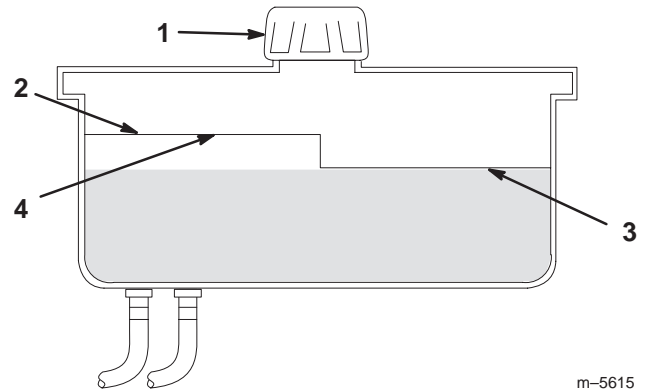

Figure 51
2. Clean area around filler neck of hydraulic tank (Fig. 51).
3. Remove the cap from the filler neck. Look inside to check if there is fluid in the reservoir (Fig. 51).
Note: The fluid level should be to the top of the **hot** level of the baffle, when the fluid is hot (Fig. 51).